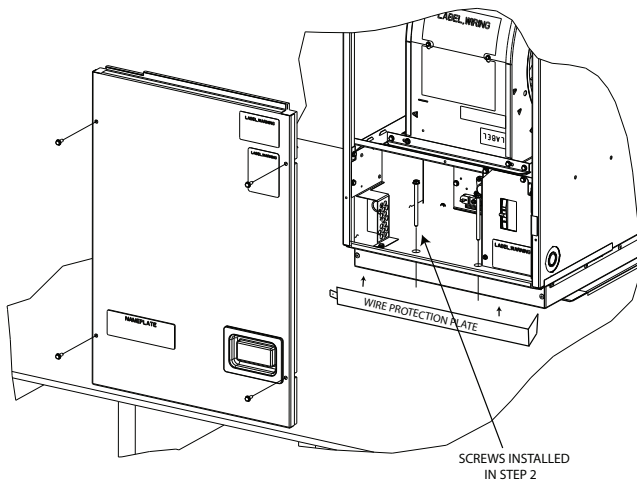

Fig. 12 – Unit Attachment
- 1 Remove the door. See Fig 12.
- 5 Connect wire protection plate to downflow base after wiring is complete, and before using long screws to attach front of cabinet to floor as shown in Fig.12.